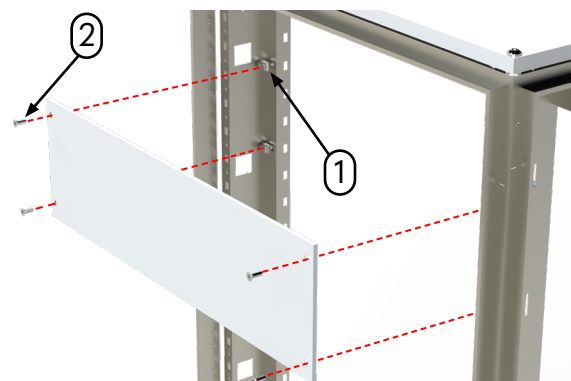

Figure 2
- Align the cover with the TMK rail and secure using M6 countersunk screws (Item 2). See Figure 2.